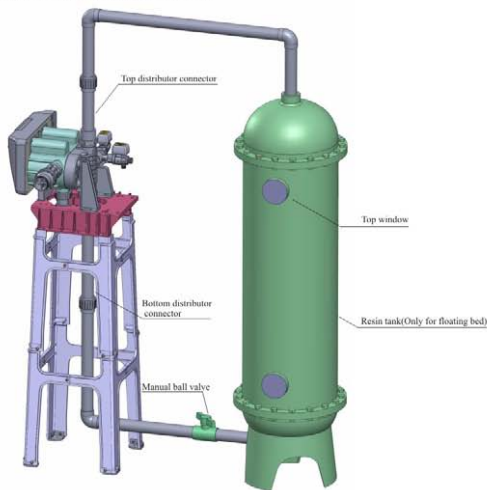

Figure 1-3
②Installing resin tank and top/bottom distributor
- Top and Bottom distributor pipeline connection is like Figure 1-3, Install a manual ball valve between bottom distributor and tank.